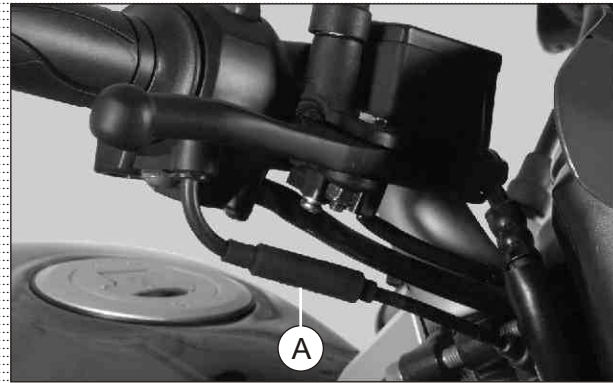

Fig. 2.57
- For checking cable assembly throttle play, first dislocate the boot throttle (A) from its position. (Fig. 2.57)
- Gently pull the cable assembly throttle holding the adjuster (B) to check the free play. If free play is more or less adjust as follows: